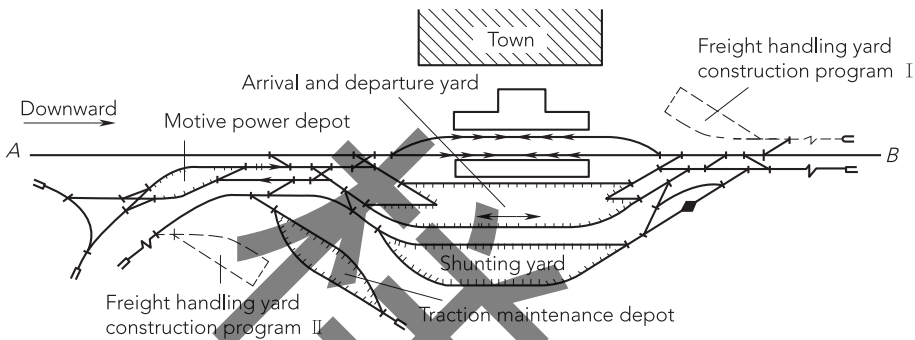
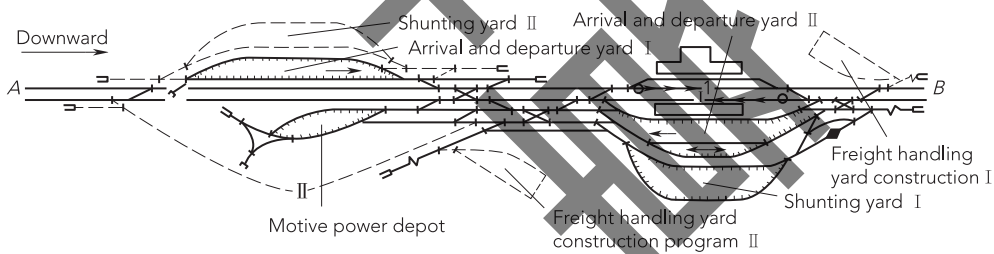

Fig. 1-2 Diagram for lateral layout district station of single-track railway
Fig. 1-3 Diagram for longitudinal layout district station of double-track railway
The volume of the district station and the technical operations carried out at the district station are not the largest. However, the district station is equipped with relatively complete facilities capable of carrying out various technical operations. The district station can be classified into the transversal layout district station, the longitudinal layout district station, and the passenger and freight longitudinal type district station according to the configuration of the receiving-departure yard. They are shown in Fig.1-2, 1-3, 1-4.
2. **Directions:** Look at Fig. 1-2 and Fig. 1-3 and describe the “lateral layout” station and the “longitudinal layout” station respectively.